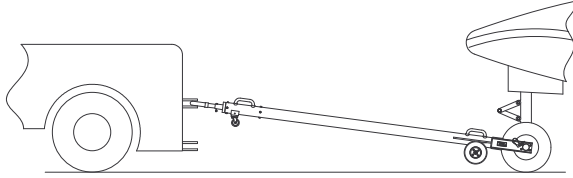

FIGURE 1 – Incorrect
**Damage to the towbar or aircraft can result from an excessive towbar angle during towing operations. *Reference Figure 1.***